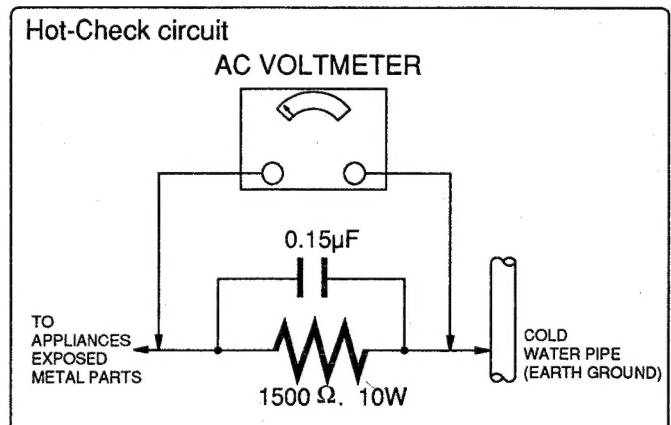

Figure 1
LEAKAGE CURRENT HOT CHECK (See Figure 1)
2. Connect a 1.5K ohms, 10 watts resistor, in parallel with a 0.15 μ F capacitor, between each exposed metallic part on the set and a good earth ground such as a water pipe, as shown in Figure 1.